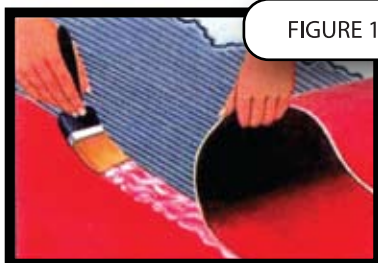

FIGURE 11
**Figure 11** - Apply a wide bead of cement to the entire length of the overlap. If the material has been joined outside of the installation areas, apply the bead to both top and bottom edges of the overlap. Do not disturb or try to peel joined surfaces. The cemented seam should fully cure in 24 hours. Test for water tightness.